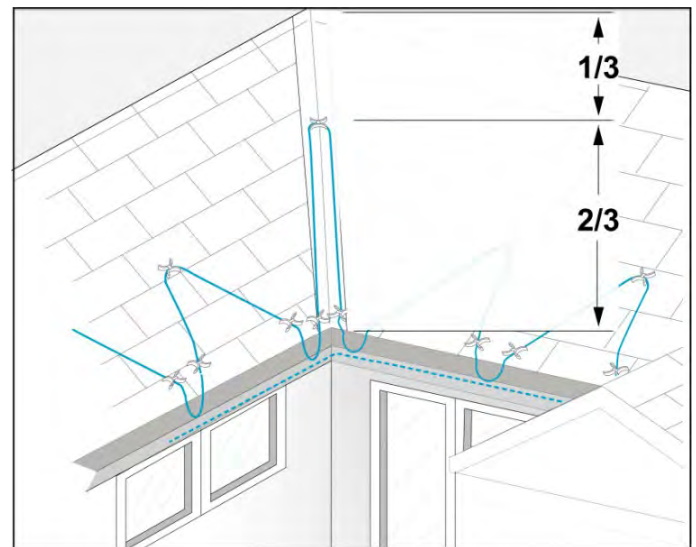

Figure 7: Roof Valleys
1. Trace two-thirds of the way up each valley with a double run of heating cable as shown in Figure 7.